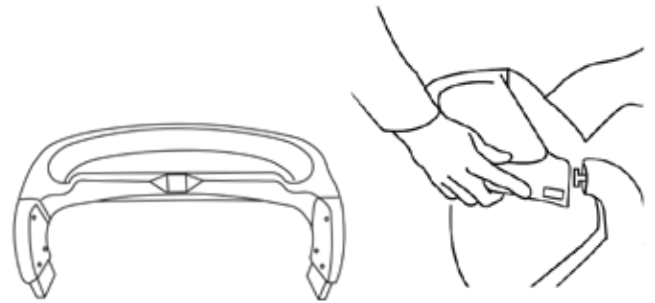

Fig. 7
11. To attach the child tray: Rotate and align left and right side of child tray posts with the left and right side stroller tray posts. Press left and right side child tray posts into left and right side stroller tray posts into a fully locked position. Press left side child tray button and snap child tray onto stroller tray posts. Release button to lock child tray onto stroller (Fig. 7). Repeat on right side of child tray. Check to make sure the child tray is securely attached to the stroller by pulling upward on the child tray.